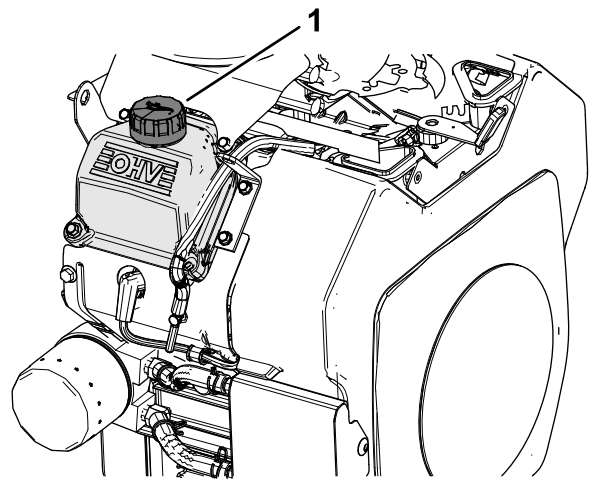
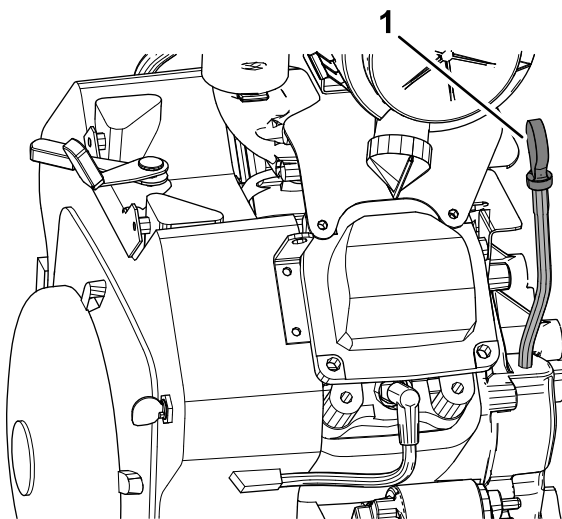

Figure 29
Figure 28
2. Clean the area around the oil dipstick and the oil-fill cap of the valve cover (Figure 28 and Figure 29).
3. Remove the dipstick and wipe the end clean (Figure 28).